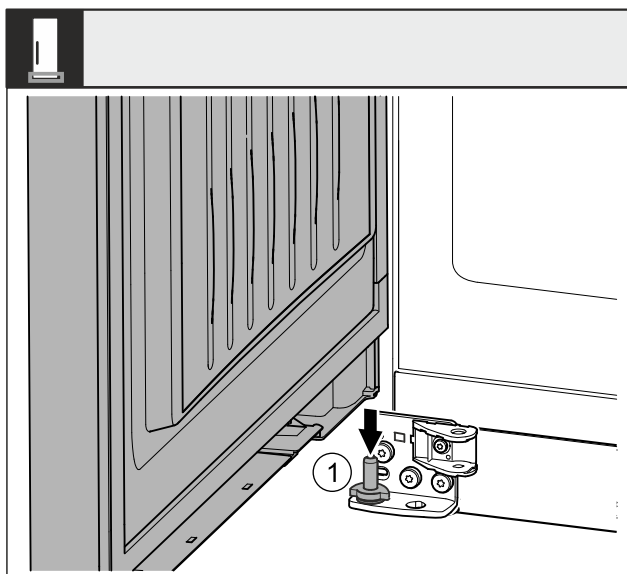

Fig. 42 \*
- ▶ Lower the door onto the bottom bearing bolt Fig. 42 (1).\*